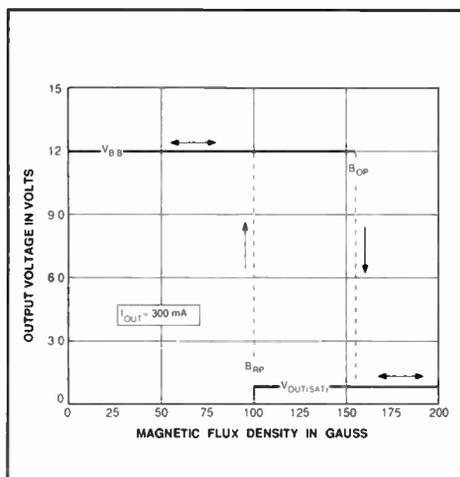

Fig. 3. Typical transfer characteristics at  $T_A = +25\text{ }^{\circ}\text{C}$ .
**Magnetic operation.** As shown in Fig. 3, the output of the device (pin 2) switches low when the magnetic field at the Hall sensor exceeds the operate point threshold ( $B_{OP}$ ). When the magnetic field is reduced to below the release point threshold ( $B_{RP}$ ), the device goes high. The difference in the magnetic operate and release points is called the hysteresis ( $B_H$ ) of the part. This built-in hysteresis allows clean switching of the output even in the presence of external mechanical vibration and electrical noise.